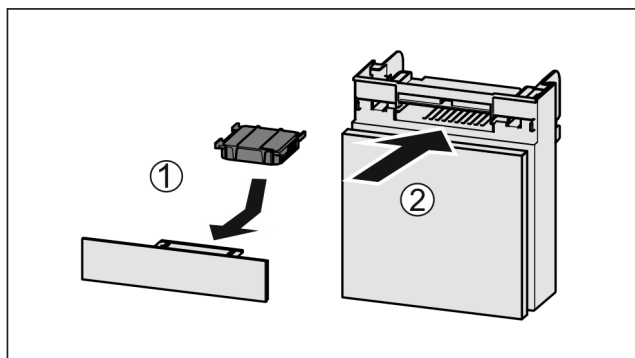

Fig. 183
- Insert the carbon filter as shown in the diagram Fig. 183 (1).
- Push the compartment in Fig. 183 (2).